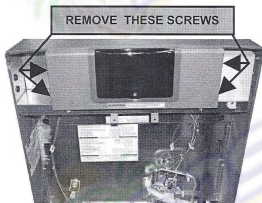
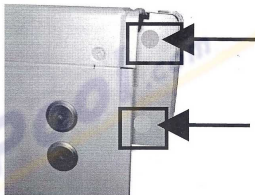

Fig. 3
Fig. 4
5. Remove the four screws on the side of control panel. See Fig. 3 and Fig. 4.